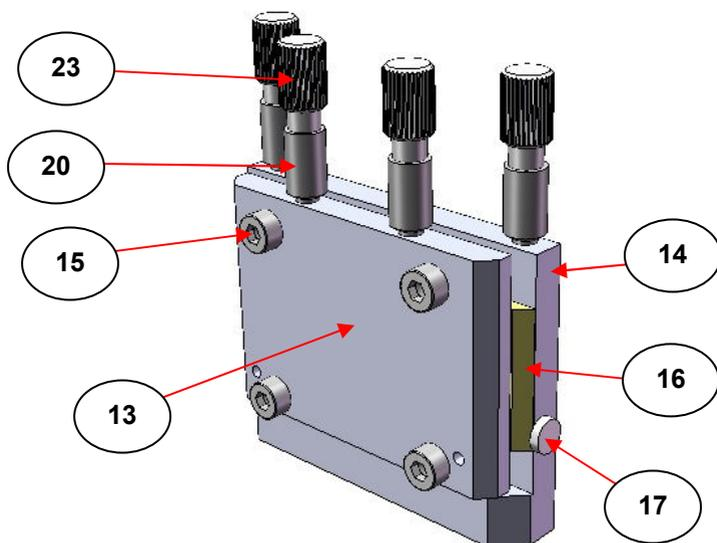
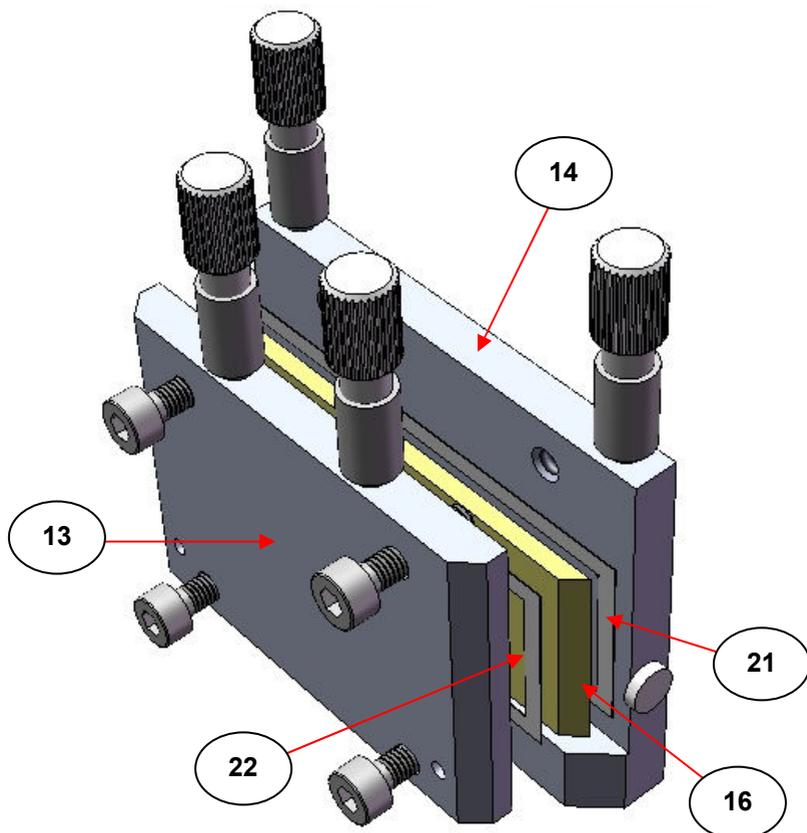

Fig 6. 25 Reflection ATR Liquids Holder GS11003
Fig 7. ATR Crystal with Gaskets for Sample Cavities as Positioned in the Liquids Holder
As an alternative to the solids holder P/N GS11001, the liquids holder P/N GS11003 can be used in the 25 Reflection ATR accessory for the measurements of liquid types of sample. (See Fig 6.)
Therefore, in a construction of the liquid sample holder, it consists as a sandwich of front clamp plate (14), long PTFE gasket (21), crystal (16), short PTFE gasket (22) and back clamp plate (13). (See Fig 7.) For a construction of the liquids holder, it is very similar in the way that the solids holder would be built when containing a film sample as the example given. (See pages 16 and 17.) The PTFE gaskets (21) and (22) as “substitutes” for a film sample, must be fitted carefully to cover over both crystal surfaces around their perimeters, and not to obscure the two fill holes in the clamp plate for introduction of a liquid sample. In actual construction, the longer gasket (21), crystal (16) and shorter gasket (22) “sandwich” will rest on the two protruding support pins at the base of the longer clamp plate (14). Similarly, as with the solids holder P/N GS11001, the ATR crystal (16) is correctly positioned in the liquids holder P/N GS11002 when the apex tip of the crystal is touching the nylon end stop (17) as seen in Fig 6.